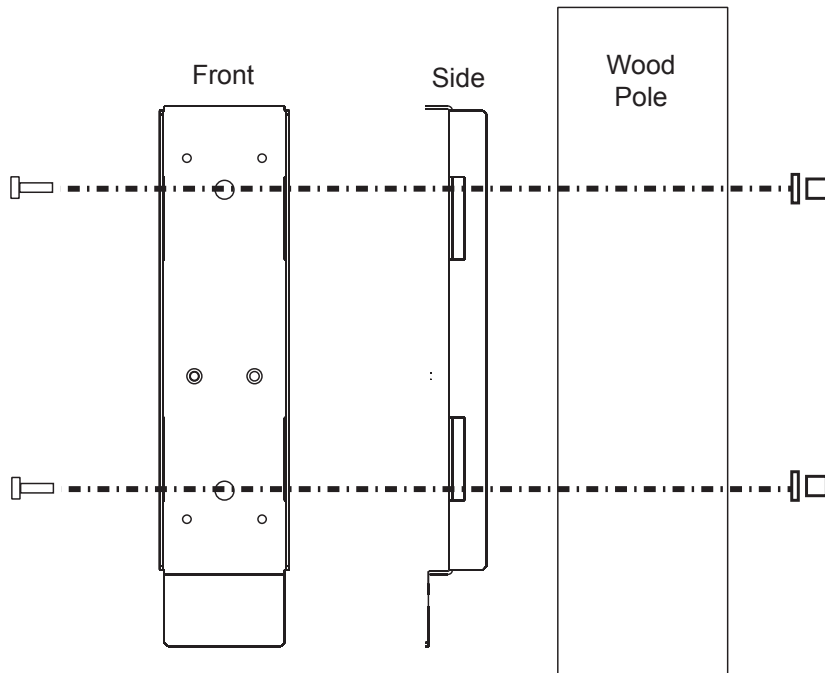

Figure 10 — Mounting to a wooden pole
2. Secure the mounting bracket to the pole with the machine bolts as shown in Figure 10.